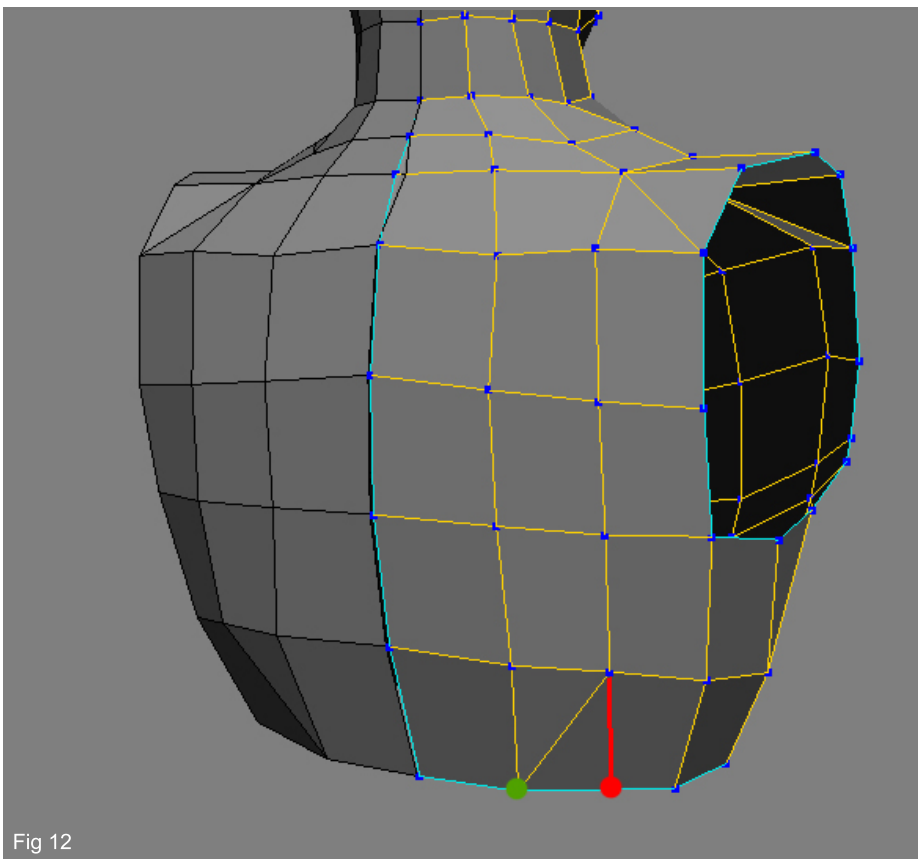

Fig 12
12. Let's go to the back area. To make the mesh follow the muscle topology better, we can weld the red-marked vertex (in Fig12) to the green-marked one. This will create a triangle that suits better to the muscles.